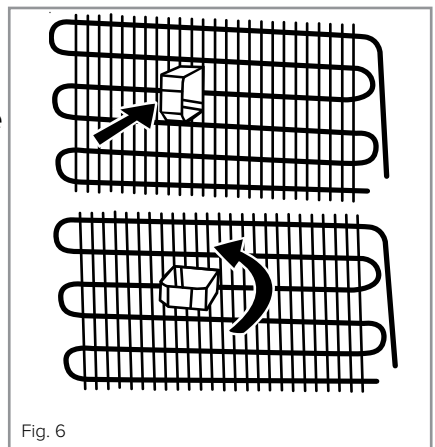

Fig. 6
- **A gap of 7cm should be allowed for ventilation between the rear wall and the back of the appliance. There is a plastic guide/stopper supplied with the appliance that should be fitted when aligning the appliance with a wall. Place the guide into the condenser and turn it by 90° (Fig 6). The guide will then lock into place. Take extreme care not to damage the condenser whilst doing this. The guide will protect the condenser and ensure a minimum air gap.**